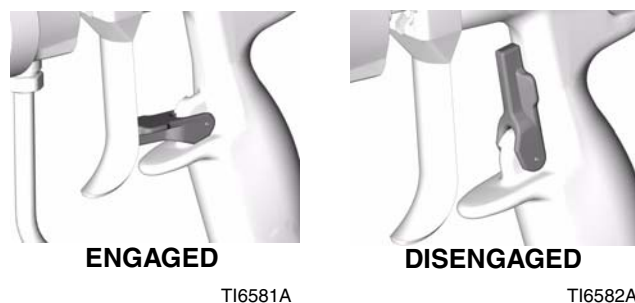

FIG. 13
1. Engage the trigger lock. See FIG. 13.
4. Disengage the trigger lock. See FIG. 13.
7. Engage the trigger lock. See FIG. 13.